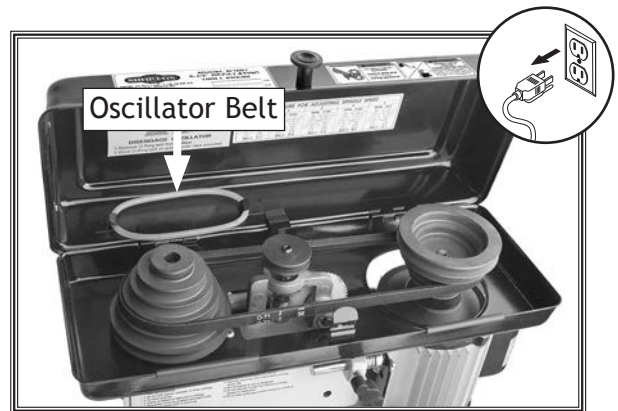

Figure 33. Location of oscillator belt.
3. Open belt cover and remove oscillator belt from storage bracket (see Figure 33).